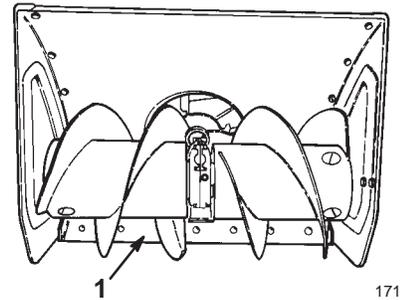

Figure 16
2. Move the snowthrower to a flat surface and ensure that the scraper (Fig. 16) is parallel to the ground. If it is not, adjust the scraper; refer to Adjusting the Skids and the Scraper on page 21.